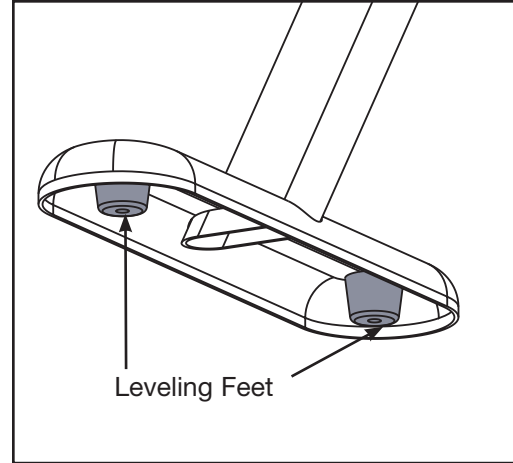

Figure 8
- C. Locate the leveling feet at the rear of the unit. See Figure 8.